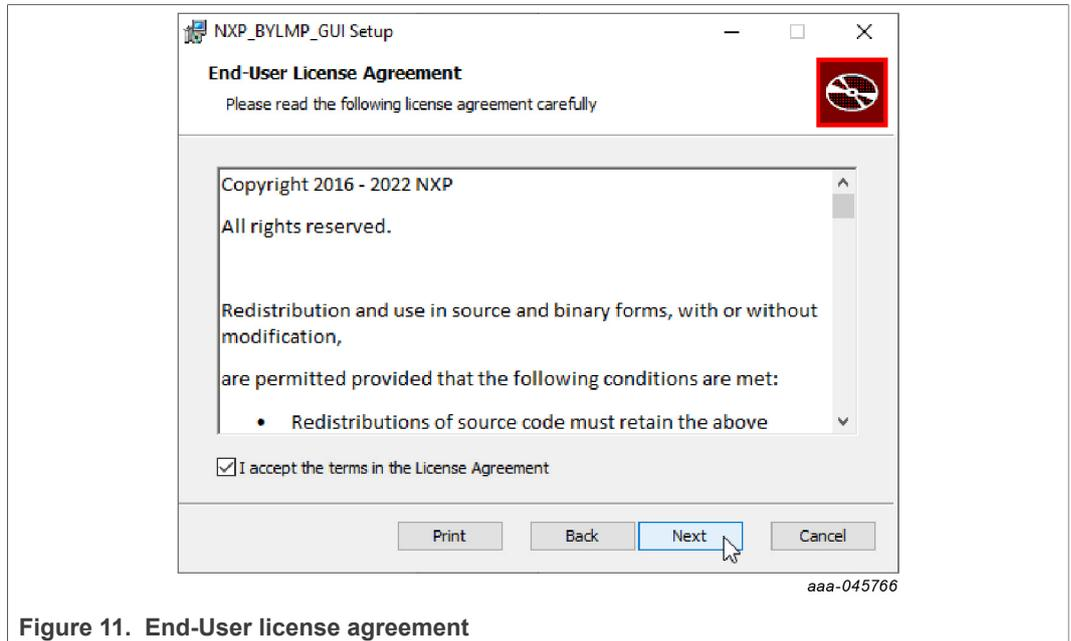

Figure 11. End-User license agreement
- Accept license agreement (Figure 11) and click the Next button.